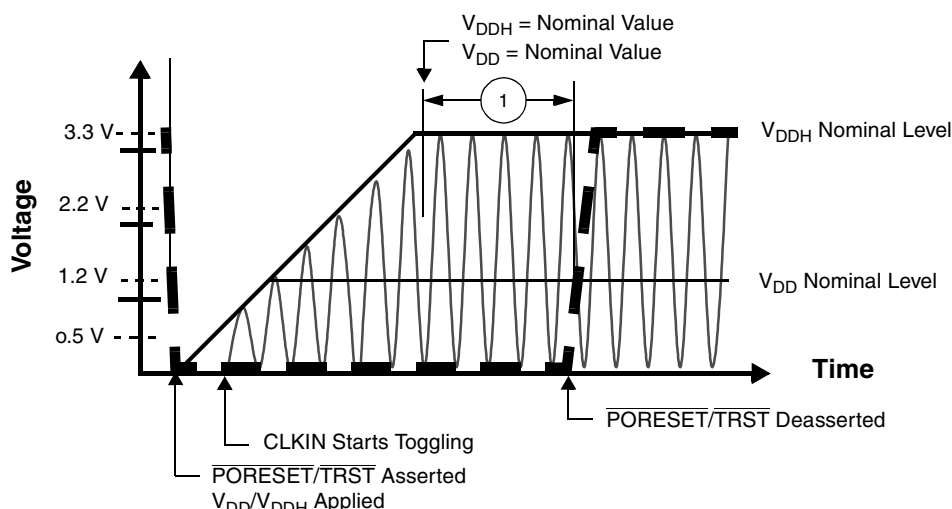

Figure 2-2. Start-Up Sequence with V_{DD} and V_{DDH} Raised Together
- CLKIN should start toggling at least 16 cycles (starting after V_{DDH} reaches its nominal level) before $\overline{\text{PORESET}}$ deassertion to guarantee correct device operation (see **Figure 2-2** and **Figure 2-3**).
The following figures show acceptable start-up sequence examples. **Figure 2-2** shows a sequence in which V_{DD} and V_{DDH} are raised together. **Figure 2-3** shows a sequence in which V_{DDH} is raised after V_{DD} and CLKIN begins to toggle as V_{DDH} rises.